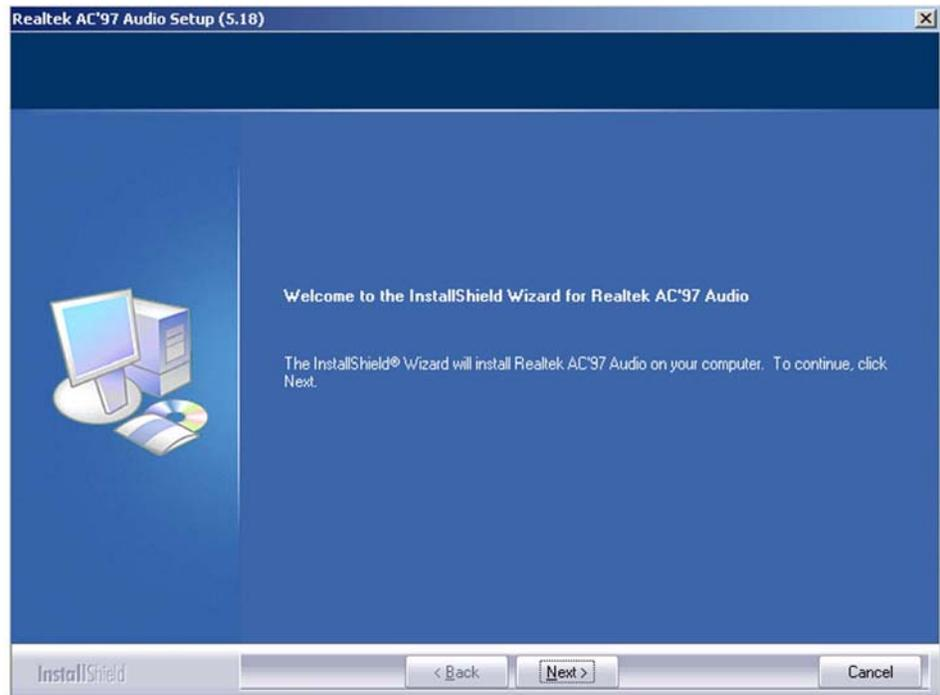
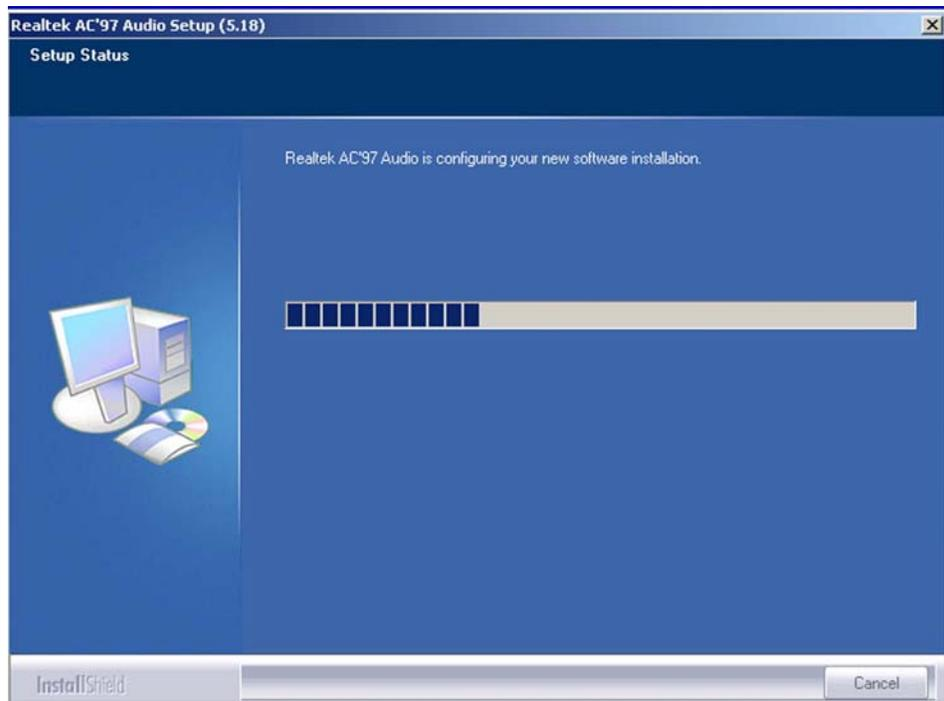

Figure 6-11: Audio Driver Welcome Screen
Figure 6-12: Audio Driver Software Configuration
Step 4: After install shield is prepared, the welcome screen shown in **Figure 6-11** appears. To continue the installation process, click the “NEXT” button. The install shield starts to configure the new software as shown in **Figure 6-12**.